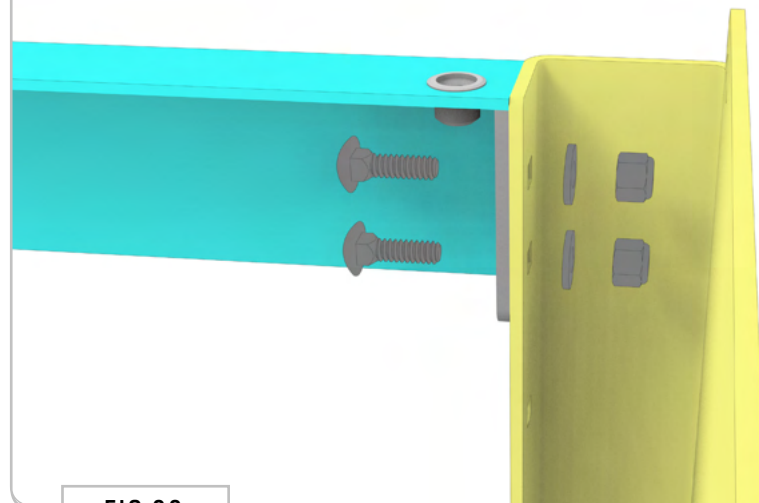

FIG 38
Attach the **Left and Right Side Cabinet Ends** to the **Back Support** using **(4) 1/4-20 Square Neck Carriage Bolts, Flat Washers and Nylon Locknuts** (FIG 38).